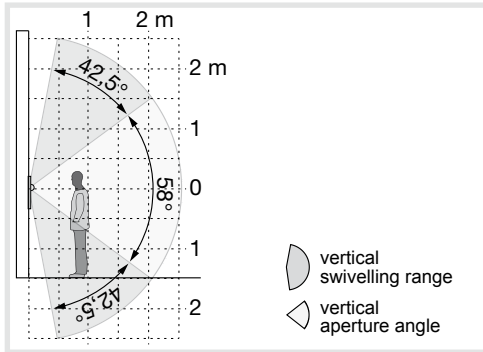

Figure 14: Vertical camera orientation
The camera can be aligned in order to adapt the camera picture to the local circumstances (Figure 14 and 15).
- Align camera (figure 14/15).